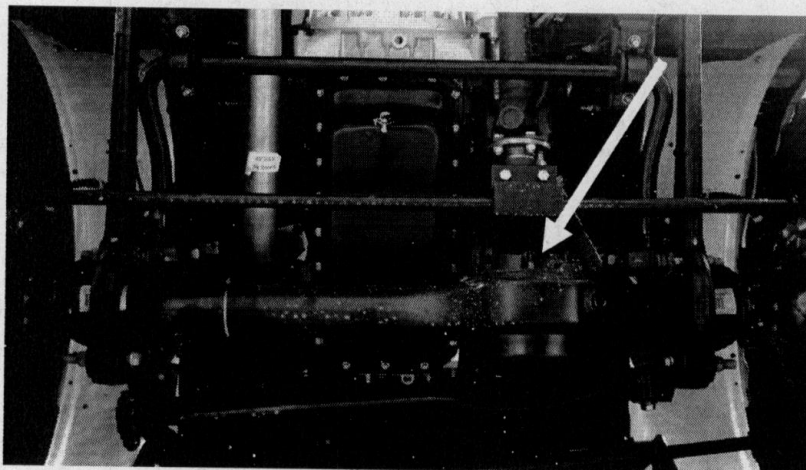

Fig 1.
- 9.3 Working underneath the vehicle, remove the 2 bolts that locate the steering arm guard and remove the guard, see fig 1.